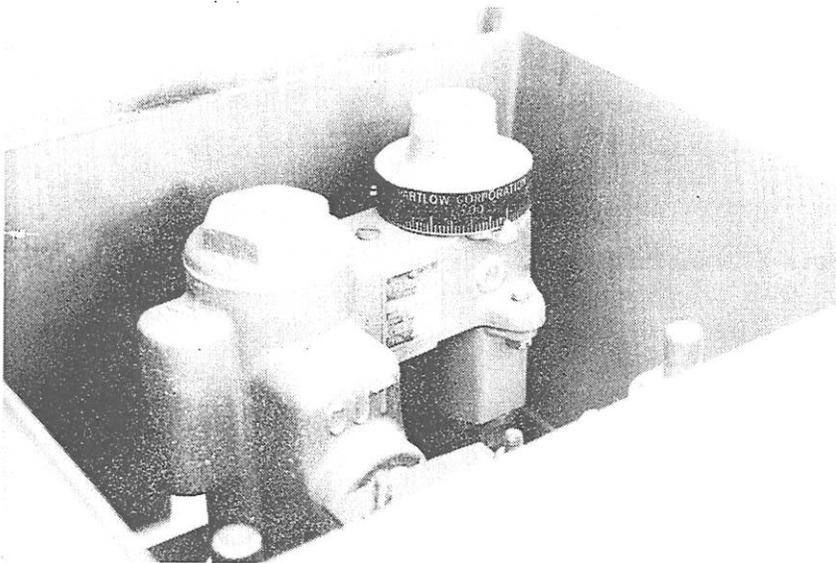

Figure 3 - Temperature Control Valve
Temperature Control Valve - Regulates the temperature of the heat transfer oil. See Figure 3. The temperature control valve may be set to any desired temperature, but not to exceed 500° F. It is necessary to calibrate the thermostat before using the machine initially, see page 8.
5. Set dial to desired temperature on temperature control valve. (Figure 3) Do not exceed 500^o F.